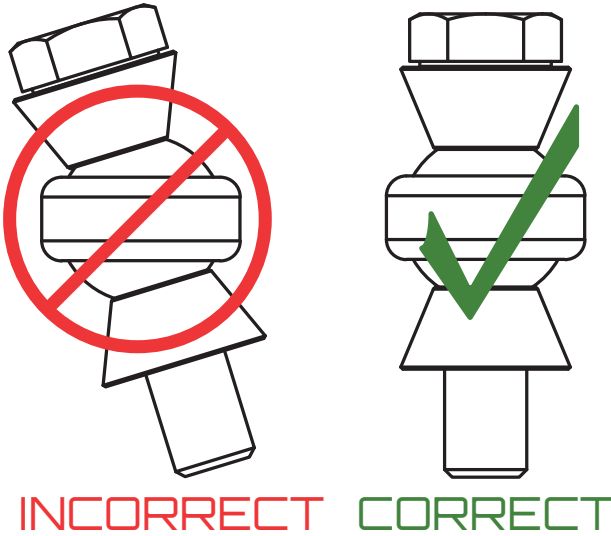

Figure 4 - Correct vs Incorrect Screw/Stud Alignment
- e. Using two 17 mm wrenches, tighten the jam-nut on the end-link. Ensure that the rod-end and screw / stud orientation is correct, shown in Figure 4.